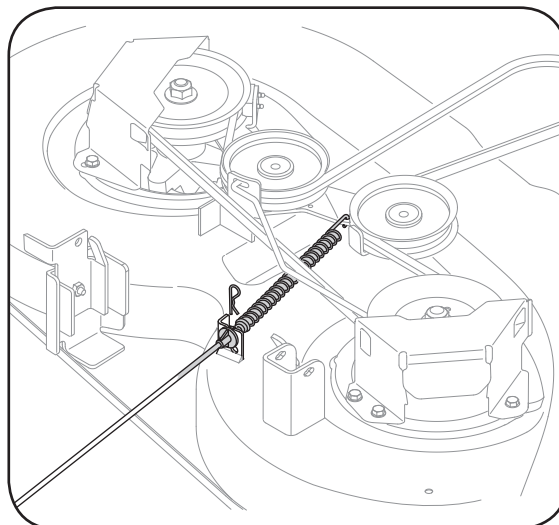

Figure 17
8. Carefully remove the PTO cable from the rear of the cutting deck by removing the hair pin clip which secures it. Remove the spring from the deck idler bracket. See Figure 17.